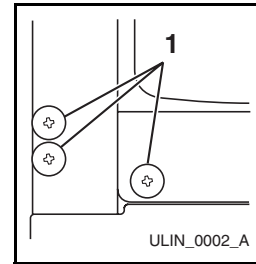

Figure 21
2. Remove plastic screw plugs (three each, top and bottom) (**Figure 21, 1**) from new hinge location. Do not discard.